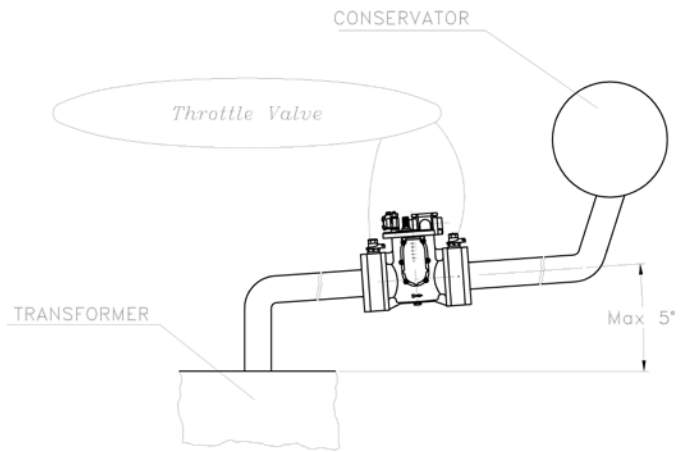

Figure 11: Buchholz relay fitting location
- Buchholz relay is a gas-actuated relay installed in oil immersed transformers for protection against several types of faults. Named after its inventor Mr. Max Buchholz (1870-1906) in 1921, relay is used to set off an alarm in case of incipient (i.e. slow-developing) faults in the transformer and to disconnect the transformer from the supply in the event of severe internal faults, Figure 11. It is usually installed in the